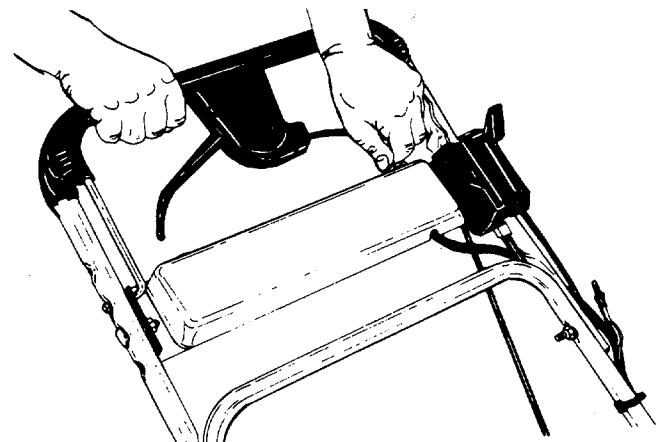

FIGURE 22.
2. Standing behind the unit, depress the blade control handle and hold it against the upper handle as shown in figure 22. Be certain the drive clutch handle is released.